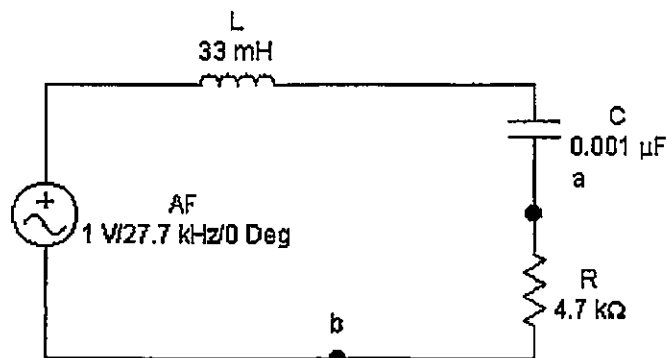

Fig 10.2
- 5- Connect the circuit of Figure 10.2. Leave the AF generator set on the resonant frequency established in Step 4 and adjust its output, V_A to 1 volt. Read and record the voltage drop across the resistor, V_R . Also record f_r in Table 10.1. Complete the column one of Table 10.1.
- 10- With the oscilloscope connected across points a-b shown in Figure 10.2 read and record the voltage across the coil, V_L , for each frequency given in Table 10.1. Maintain the AF generator's 1-volt output at each step.
- 12- With the oscilloscope connected across points a-b shown in Figure 10.2 read and record the voltage across the capacitor, V_C , for each frequency given in Table 10.1. Maintain the AF generator's 1-volt output at each step.